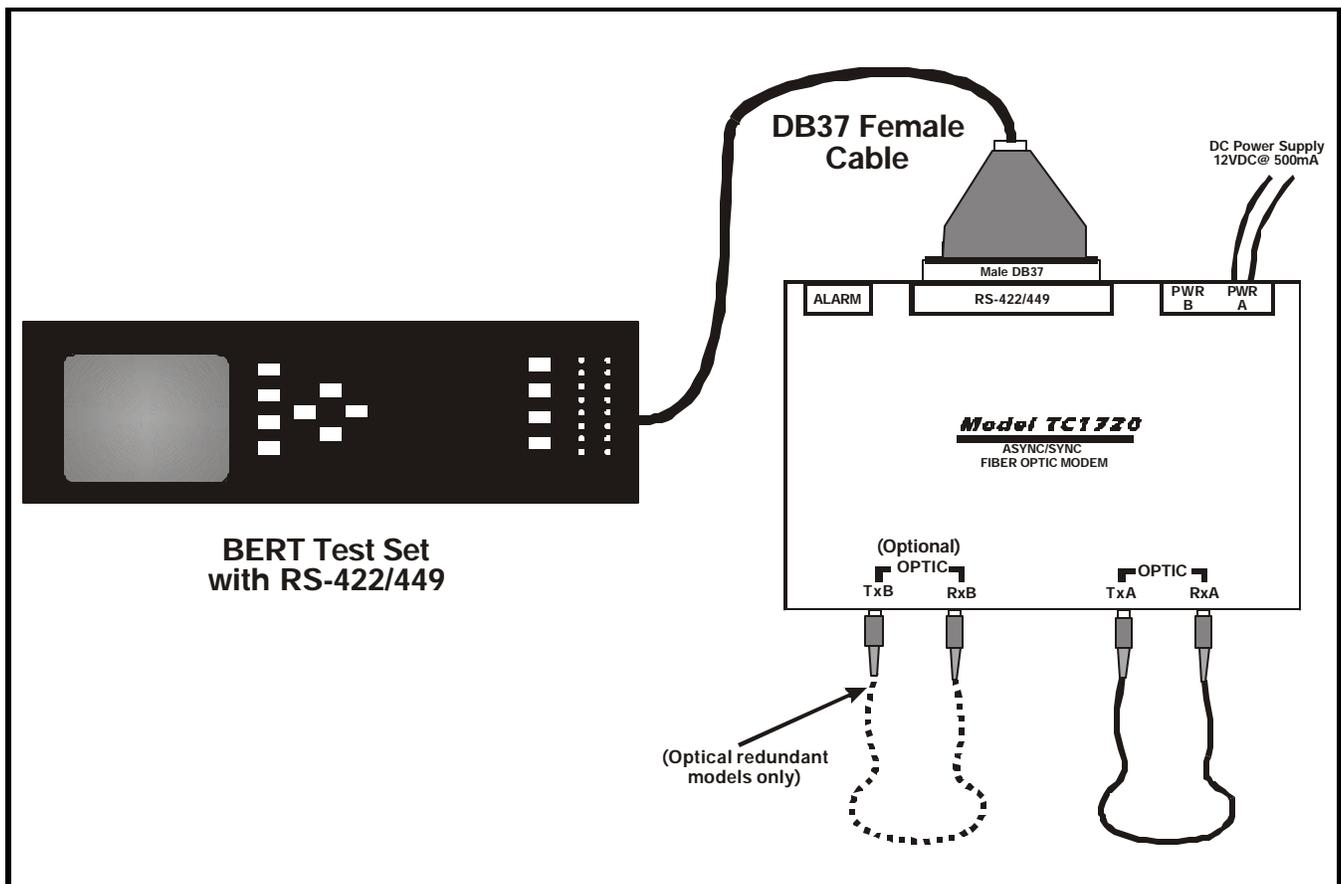

Figure 7. Local Optical Loopback Test Connection Diagram
1. Set up the bench test as illustrated in Figure 7 below. Make sure to use the correct type of fiber optical jumper cables (either Single Mode or Multimode according to the specifications of the TC1720s).